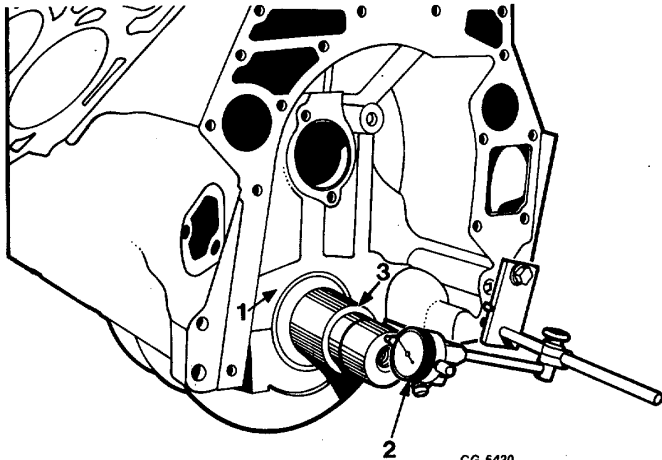

Fig. 127 Checking Crankshaft End Play
- The third crankshaft bearing controls the crankshaft thrust and provides initial location of the crankshaft in relation to the crankcase. Use dial indicator to check end play, Figure 127.